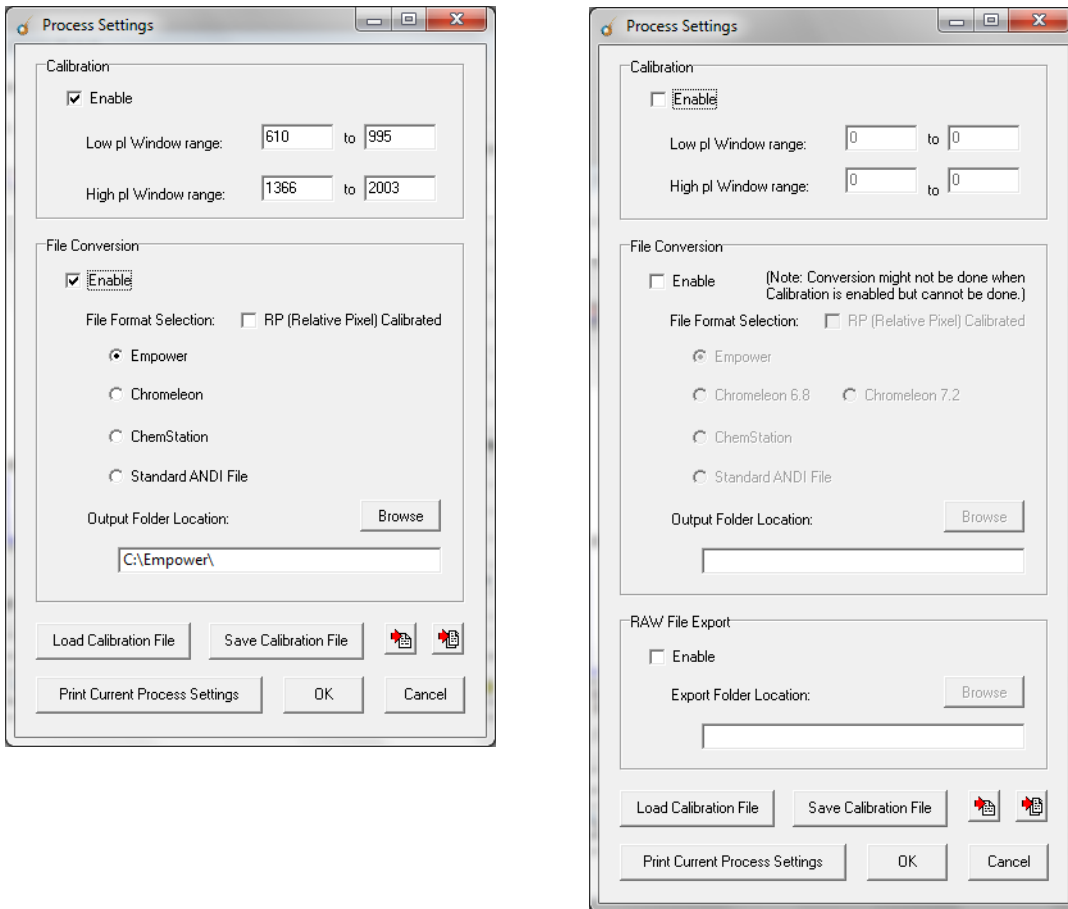

Figure 7-21: Process Settings window, iCE CFR software version 4.0 (left) and 4.1 (right).
6. In the Process Settings window (Figure 7-21), select **Enable** under Calibration to enable automated pI calibration. Manually adjust the pI windows if desired.